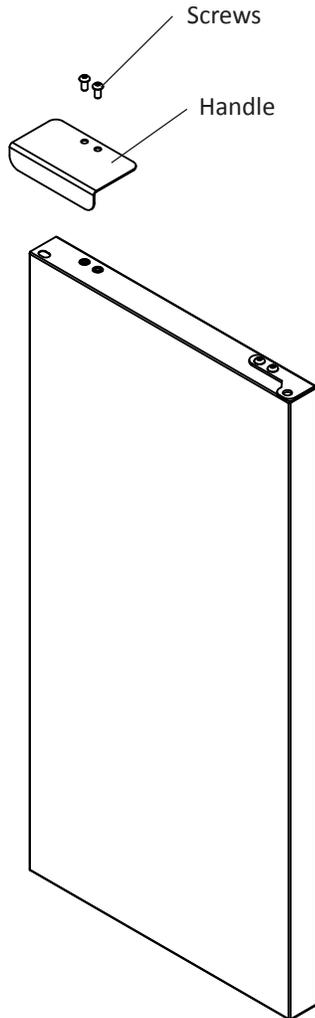

Figure 6
1. Remove the handle, (2) screws, and 5/32" allen wrench from the bag shipped inside the cabinet.
2. Locate handle opposite the hinges and secure in place using the (2) screws and the allen wrench. (See Figure 6).